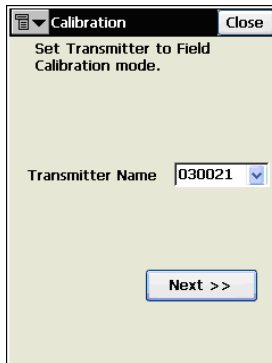

Figure A-13. Select Transmitter to Calibrate
5. On the *Calibration* screen, select the transmitter that will be calibrated and tap **Next** (Figure A-13).